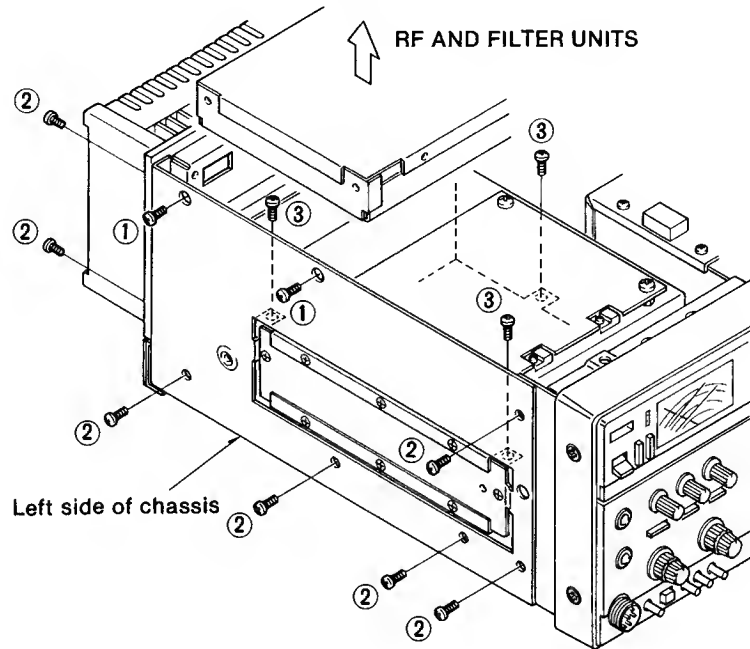

Fig. 1
3. Remove 4 screws ① from the RF and FILTER UNITS and pull the unit's case as shown in Fig. 1.
(Fig. 1 does not show the two screws on the right side.)